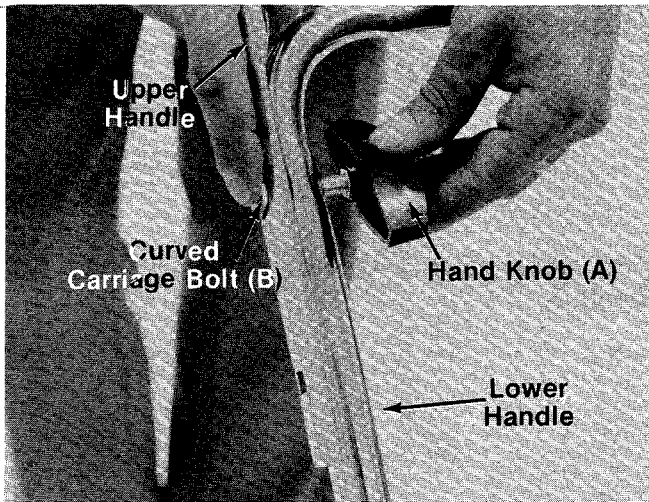

FIGURE 4.
- There are two height positions for the handle. Place upper handle (with the clutch control attached) in position over lower handle, selecting hole for either high or low position. Refer to figure 24. Secure with two curved carriage bolts (B) and hand knobs (A) as shown in figure 4. The knobs can be either to the inside or the outside of the handle.